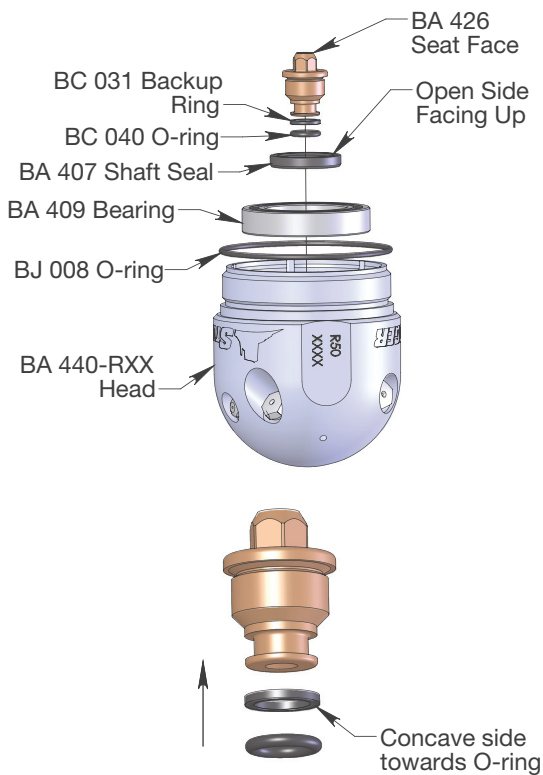

Figure 10: Seat Face and O-rings Detail
4. Install Backup Ring (BC 031) and O-ring (BC 040) into groove on the Seat Face (BA 426) in orientation shown in Figure 10. **Grease around both rings.** Apply anti-seize on threads prior to installation. Thread the Seat Face into Head and tighten to approximately 10 ft\*lbs.